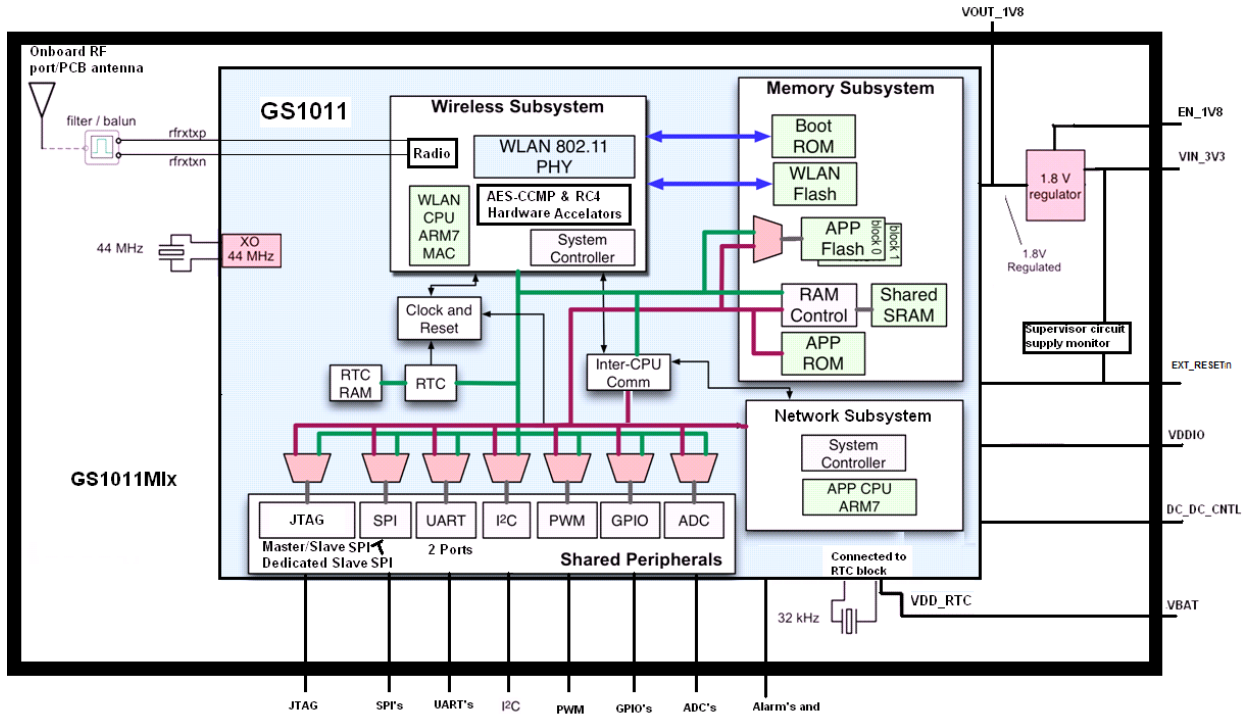

Figure 2-1: GS1011Mxx Block Diagram
- The low power module option has a capability of +9dBm output power at the antenna (see Figure 2-1).